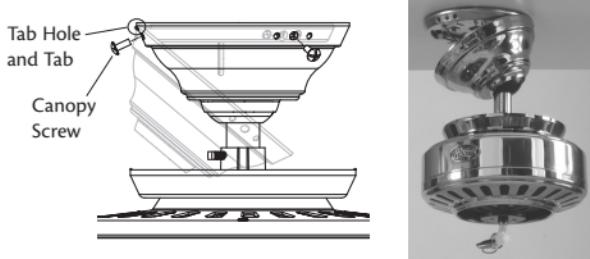

Figure 19 - Installing the canopy
2. Hook the tab hole over the tab on the ceiling plate as shown in Figure 19.
3. Raise the canopy, be sure the holes in the canopy and the ceiling plate are aligned, and loosely assemble the canopy screws one at a time. When all three screws are assembled, securely tighten all three canopy screws. Refer to Figure 19.